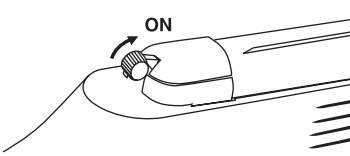

Fig 1
- To set the safety to 'ON', push safety button upwards. In this position, the trigger cannot be pulled and the gun cannot be fired. (Fig.1)
! CAUTION: Until you are actually ready to shoot, keep the safety button in the "ON" position (Fig. 1).